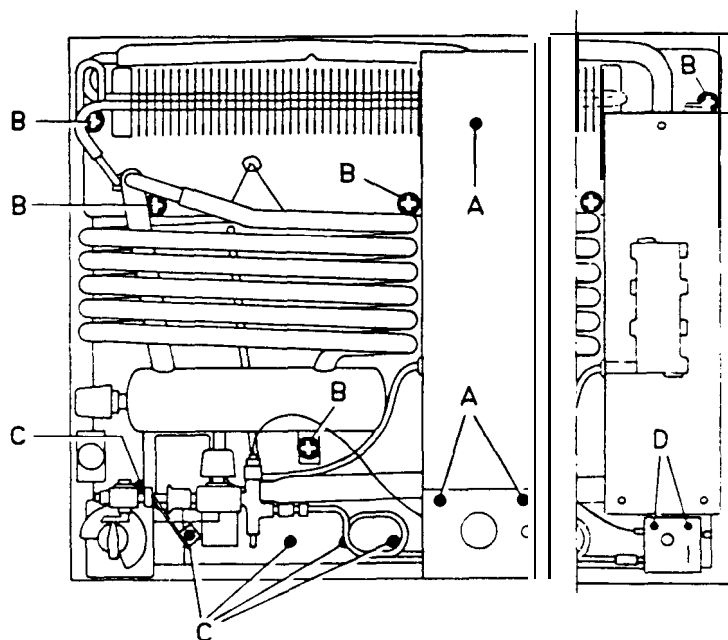

Fig. 40
10. Loosen mount screws "A" holding the blow out kit, Fig. 40.